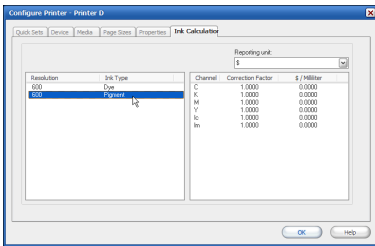

Figure 10—Ink Calculation
1. In the Ink Calculation tab of the Configure Printer dialog, select the Resolution and Ink Type you want to use (see Figure 10).